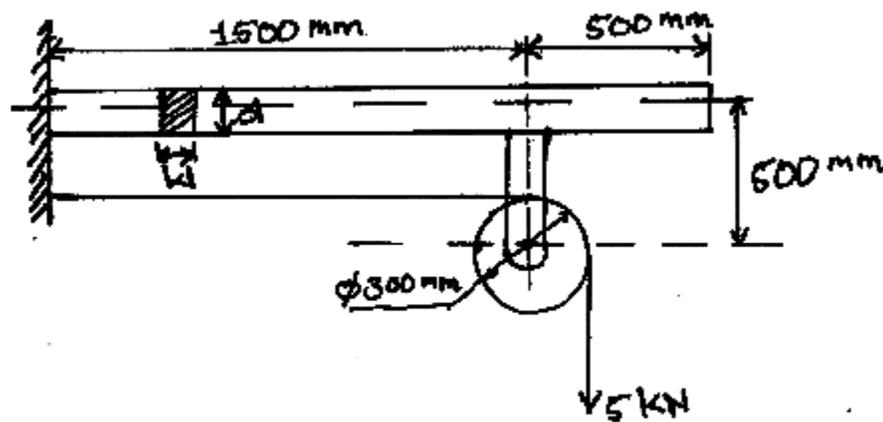

Fig. 1
- (c) A cantilever beam of rectangular cross-section is used to support a pulley as shown in Fig. 1. The tension in the wire rope is 5 kN. The beam is made of CI FG200 and the factor of safety is 2.5. The ratio of depth to width of the cross-section is 2.